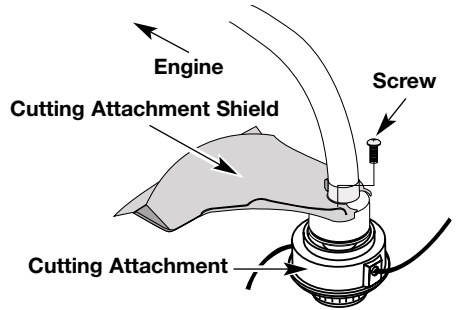

Fig. 5
2. Push the cutting attachment shield down to the top of the cutting attachment assembly. Rotate the cutting attachment shield so that it points to the engine, and the holes in the cutting attachment shield line up with the holes in the top of the cutting attachment assembly (Fig. 5).
3. Install the four (4) screws with a small Phillips screwdriver (Fig. 5).